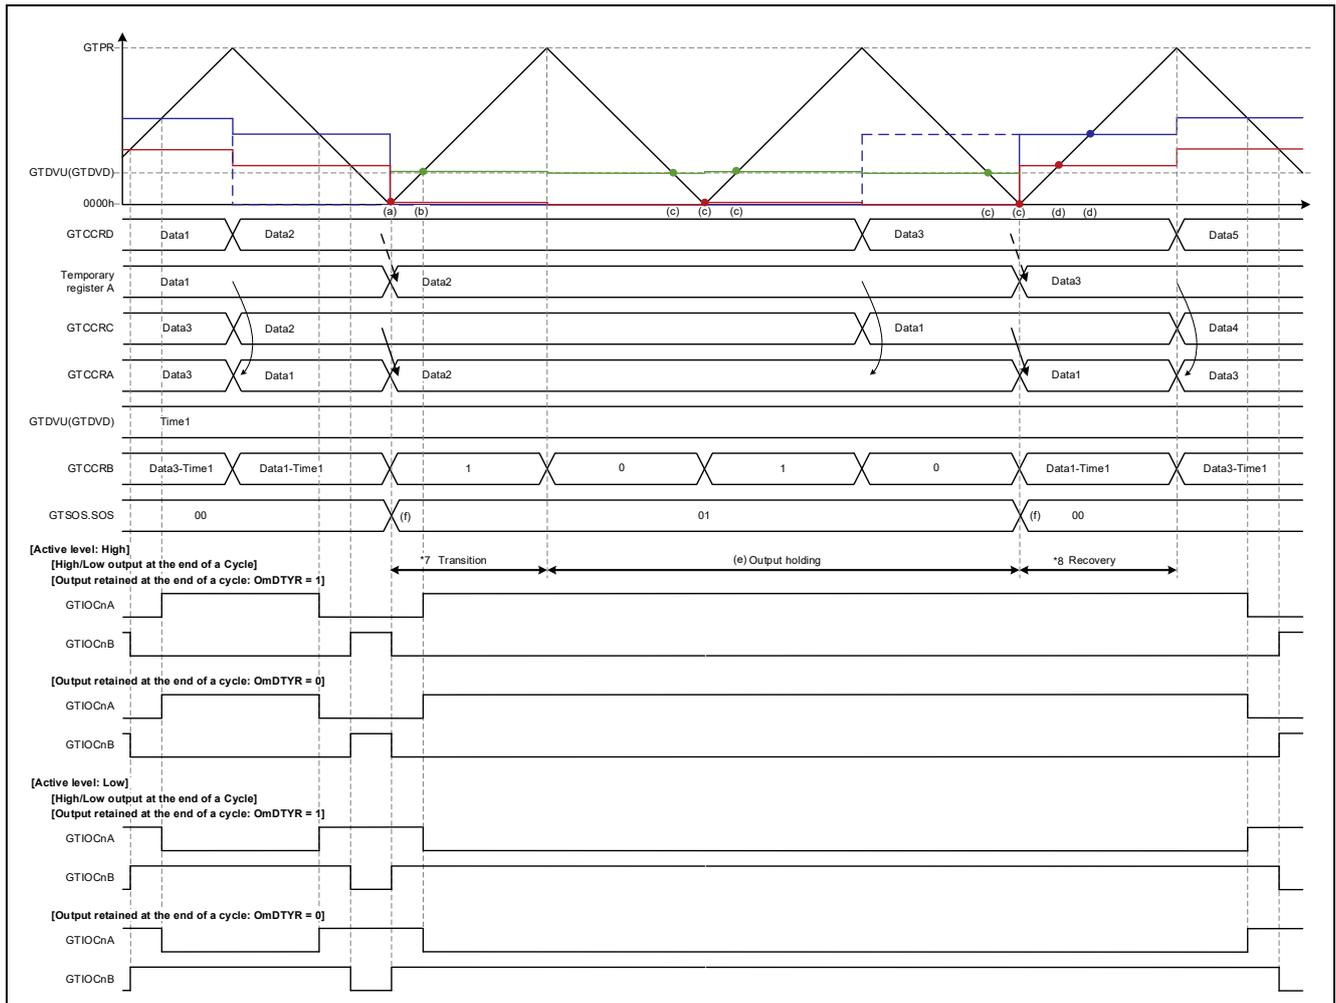

Figure 1.96 Triangle-Wave PWM Mode 3 Operation Example
| GTCCRA = 000 0000h | Trough | Trough | Present | Present | Figure 1.96 |
- Operation Example 6: Figure 1.96 Triangle-Wave PWM Mode 3, Abnormal Value (Transfer at Trough)/Normal Value (Transfer at Trough), cautions 7 and 8
Figure 1.96 shows an operation example of transfer of 0000 0000h to GTCCRA via buffer transfer at trough and return via buffer transfer at trough of a normal value in triangle-wave PWM mode 3